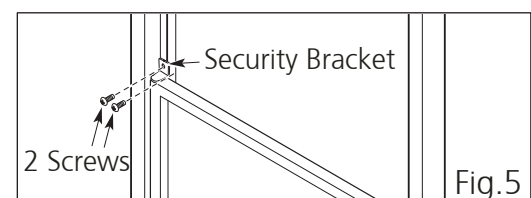

Fig.5
4. If desired, install the security bracket with 2 screws as shown.(see Fig.5)